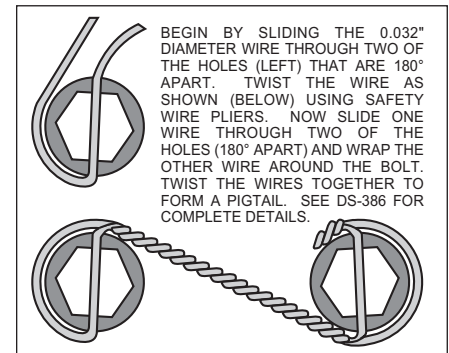

Figure 6. Safety Wire Diagram
- Align the correct hole pattern in the rotor (3) with the stud pattern on the axle flange. **NOTE:** Some OEM and after market axles come with stud sizes larger than 0.50" diameter. Verify stud size and have a qualified machine shop drill the bolt circle of the rotor to the correct stud size, if necessary. Slide the rotor (3) over the wheel studs covering the mounting bracket assembly (1) and against the axle flange face.
- NOTE:** Please reference the caution statement at the beginning of the assembly instructions. WITH THE BLEED SCREWS POINTING UP, mount the caliper (4) over the rotor (3) and onto the caliper mounting bracket (1) using lock washers (5) and mounting bolts (6). View the rotor through the top opening of the caliper. The rotor should be aligned in the center of the caliper. If not, adjust the caliper by using 0.032 inch shims (7) by placing them between the caliper mounting bracket (1) and the caliper (4). Apply red *Loctite*® 271 to the mounting bolt threads (6), torque to 30 ft-lb. Safety wire the caliper mounting bolts (6) using standard 0.032 inch diameter stainless steel safety wire as shown in Figure 6. Please refer to Wilwood's data sheet DS-386 (available at www.wilwood.org/ds386.pdf) for complete safety wire installation instructions.
- Position the Wilwood disc brake pads (8) into the caliper (4) and fasten with cotter pin (9). Steel backing plate side of brake pad should face the caliper pistons.
- Before final installation of the wheel, install a couple of lug nuts and adjust the parking brake shoes outward (using a drum shoe adjustment tool available at your local auto parts store) while spinning the rotor/hat (3) until a slight drag is felt again the hat/drum.